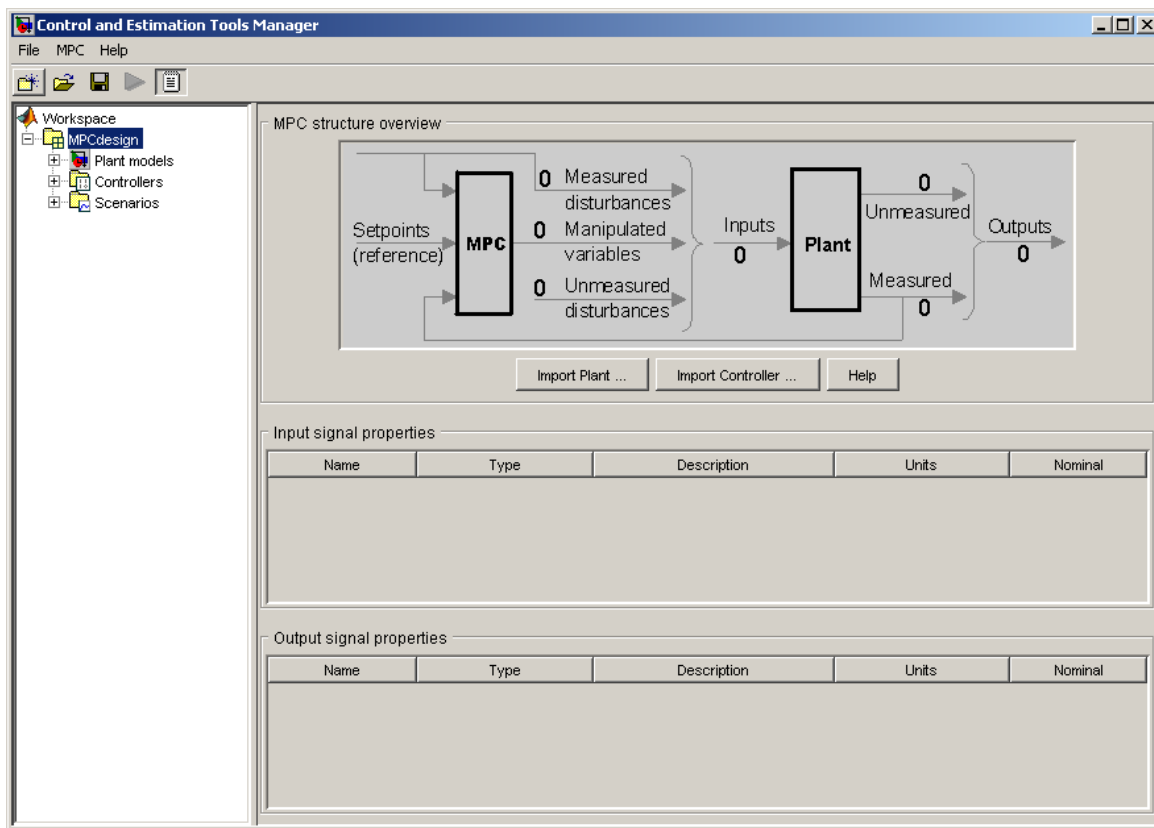
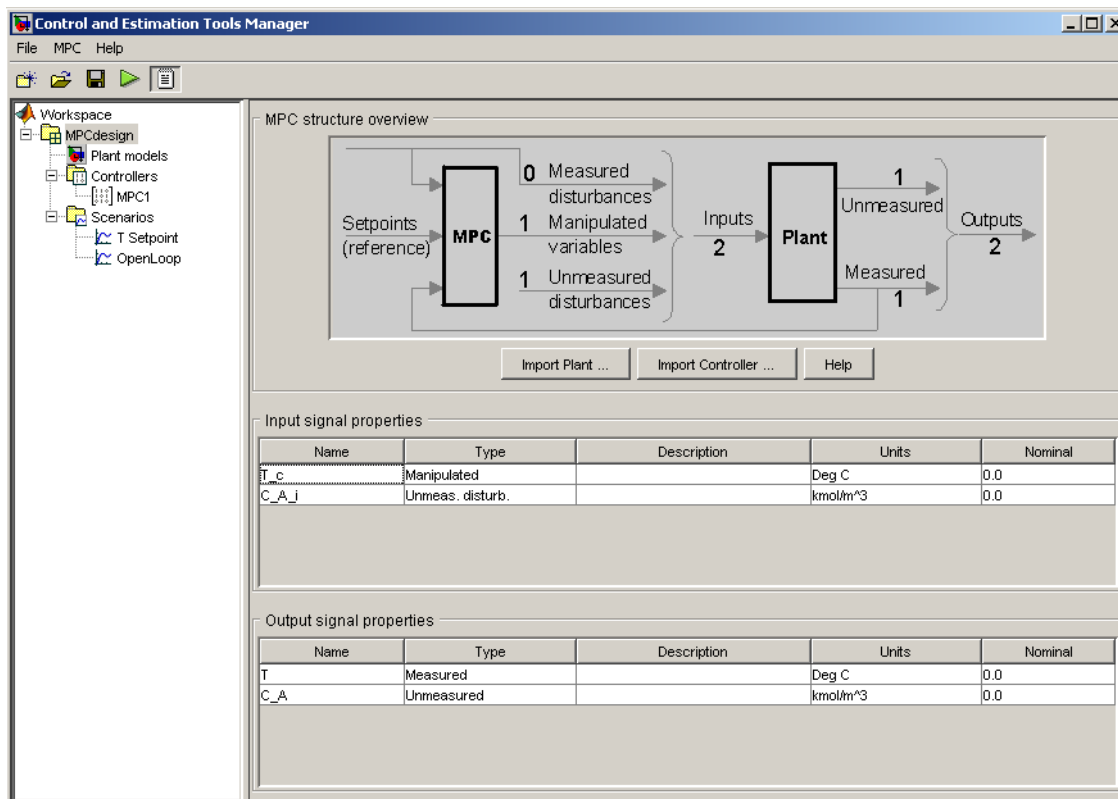

Figure 3-1: Model Predictive Control Toolbox™ Design Tool Initial View
Figure 3-3: Model Predictive Control Toolbox™ Design Tool's Signal Definition View
Click the **Import Plant** button in the design tool’s initial view (see Figure 3-1). The Plant Model Importer dialog box appears.
Click the **Import** button. This loads CSTR into the design tool. Then click the **Close** button (otherwise the dialog box remains visible in case you want to import another model). The design tool should appear as in Figure 3-3.
- The **Description** and **Unit** entries are optional. You can enter the values shown in Figure 3-3 manually. As you will see, the design tool uses them to label plots and other tables.
The *tree* in the left-hand frame of Figure 3-3 shows that the default **MPCdesign node** (see Figure 3-1) has been renamed **CSTRcontrol** by clicking the name, waiting for the usual edit box to appear, typing the new name, and pressing **Enter** to finalize the choice.
Figure 3-3 also shows three new nodes below **CSTRcontrol**. These activate once you've imported a plant model (or controller).
For example, clicking the *project* node (**CSTRcontrol** in Figure 3-3) allows you to review and edit the signal properties tables.
The C_{A_i} input's nominal value is 0.0 (see Figure 3-3), so the above models a sudden increase to 1 at the beginning of the simulation. The following is an equivalent setup using the Step type.